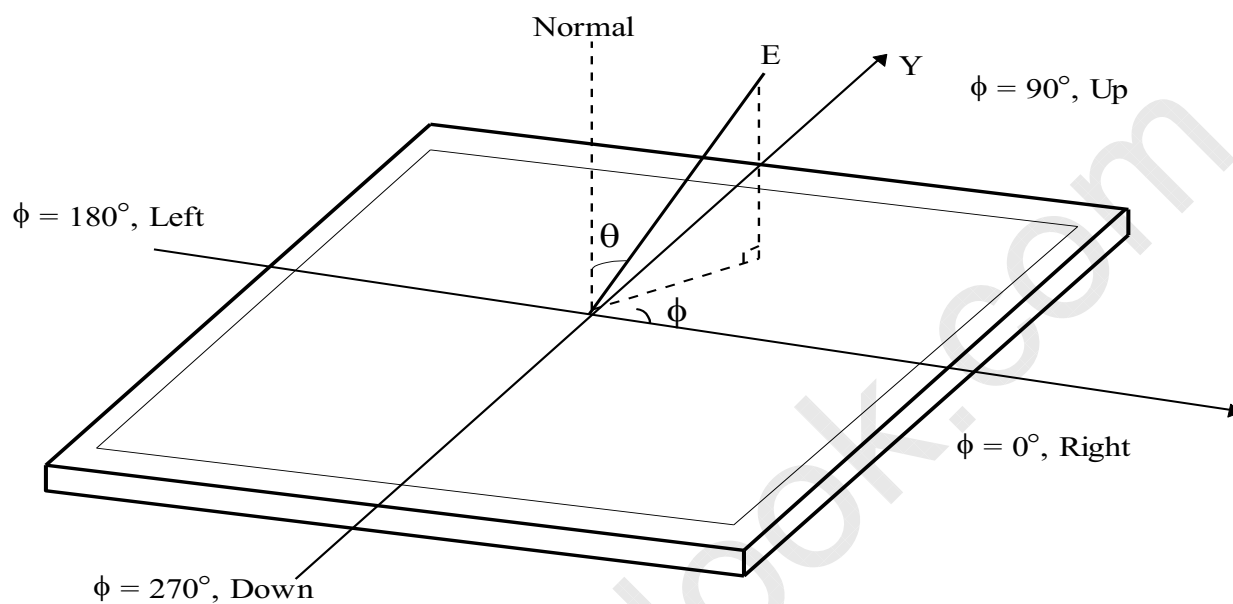

FIG. 11 Viewing angle
- Viewing angle is the angle at which the contrast ratio is greater than 10. The angles are determined for the horizontal or x axis and the vertical or y axis with respect to the z axis which is normal to the LCD module surface. For more information, see the FIG. 11.